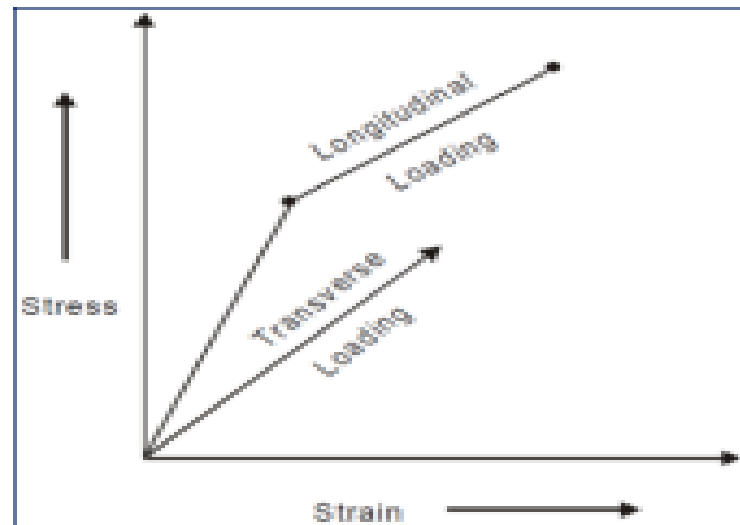

Fig. 5 Longitudinal and Transverse Loading
- Fig. 5 shows Longitudinal and Transverse Loading